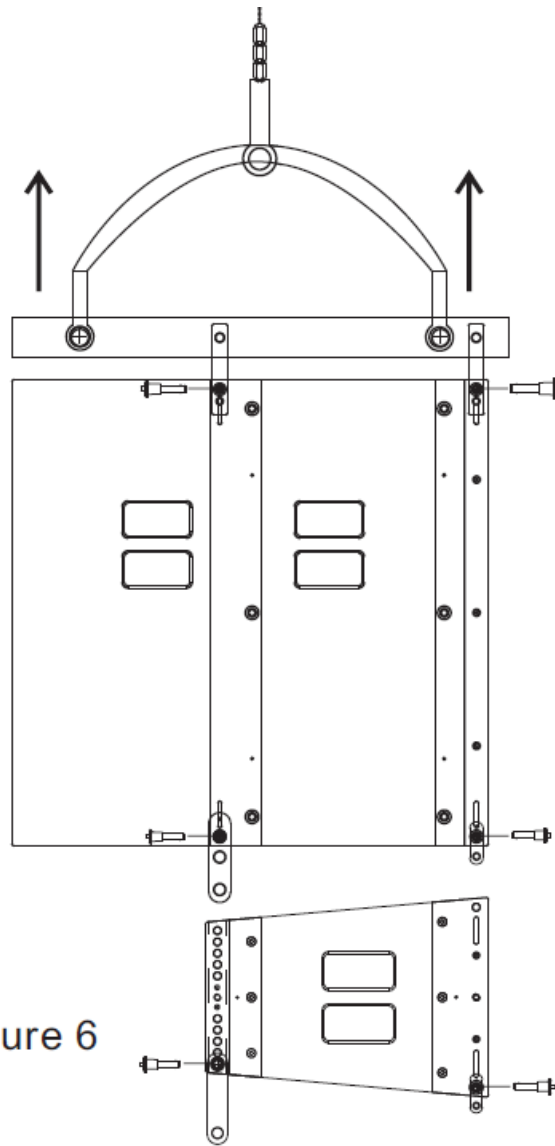

Figure 6
- **Step 6:** Raise the hanger in the original position by about 300mm, and then put the main box under the bass box (as shown in Figure 6);